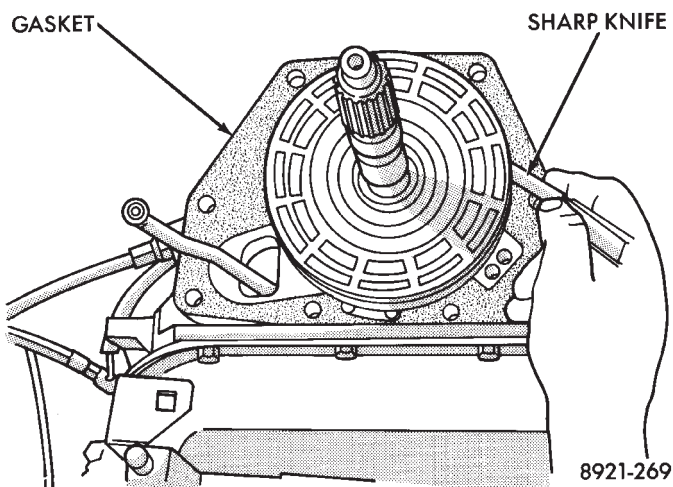

Fig. 10 Trimming Replacement Overdrive Case Gasket
(1) Be sure Alignment Tool 6227-2 is still fully seated in splines of overdrive planetary gear and overrunning clutch. If misalignment occurs, overdrive will have to be disassembled in order to realign splines.
(2) If original case gasket is in good condition, proceed to step (6). If overdrive piston retainer was not removed during service and original case gasket is not reusable, prepare new gasket as described in steps (3) through (5).
(3) Cut out old case gasket around piston retainer with razor knife.
(4) Use old gasket as template and trim new gasket to fit (Fig. 10).